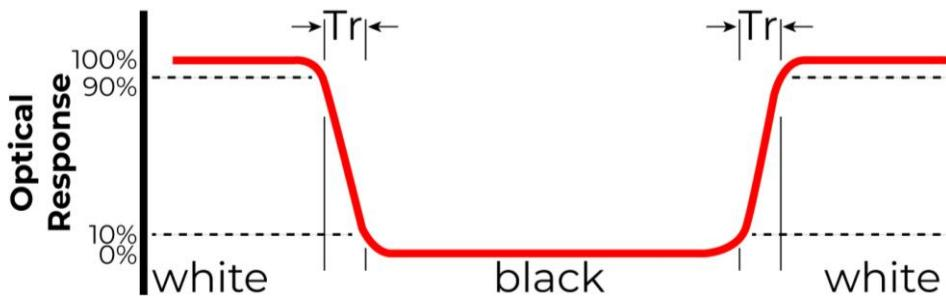

Figure 2. The definition of response time
Note 1. Contrast Ratio (CR) is defined mathematically as below, for more information see Figure 2.
Note 2. Surface luminance is the LCD surface from the surface with all pixels displaying white. For more information see Figure 2.
Note 3. The uniformity in surface luminance δ WHITE is determined by measuring luminance at each test position 1 through 5 and then dividing the minimum luminance of 5 points luminance by maximum luminance of 5 points luminance. For more information see Figure 2.